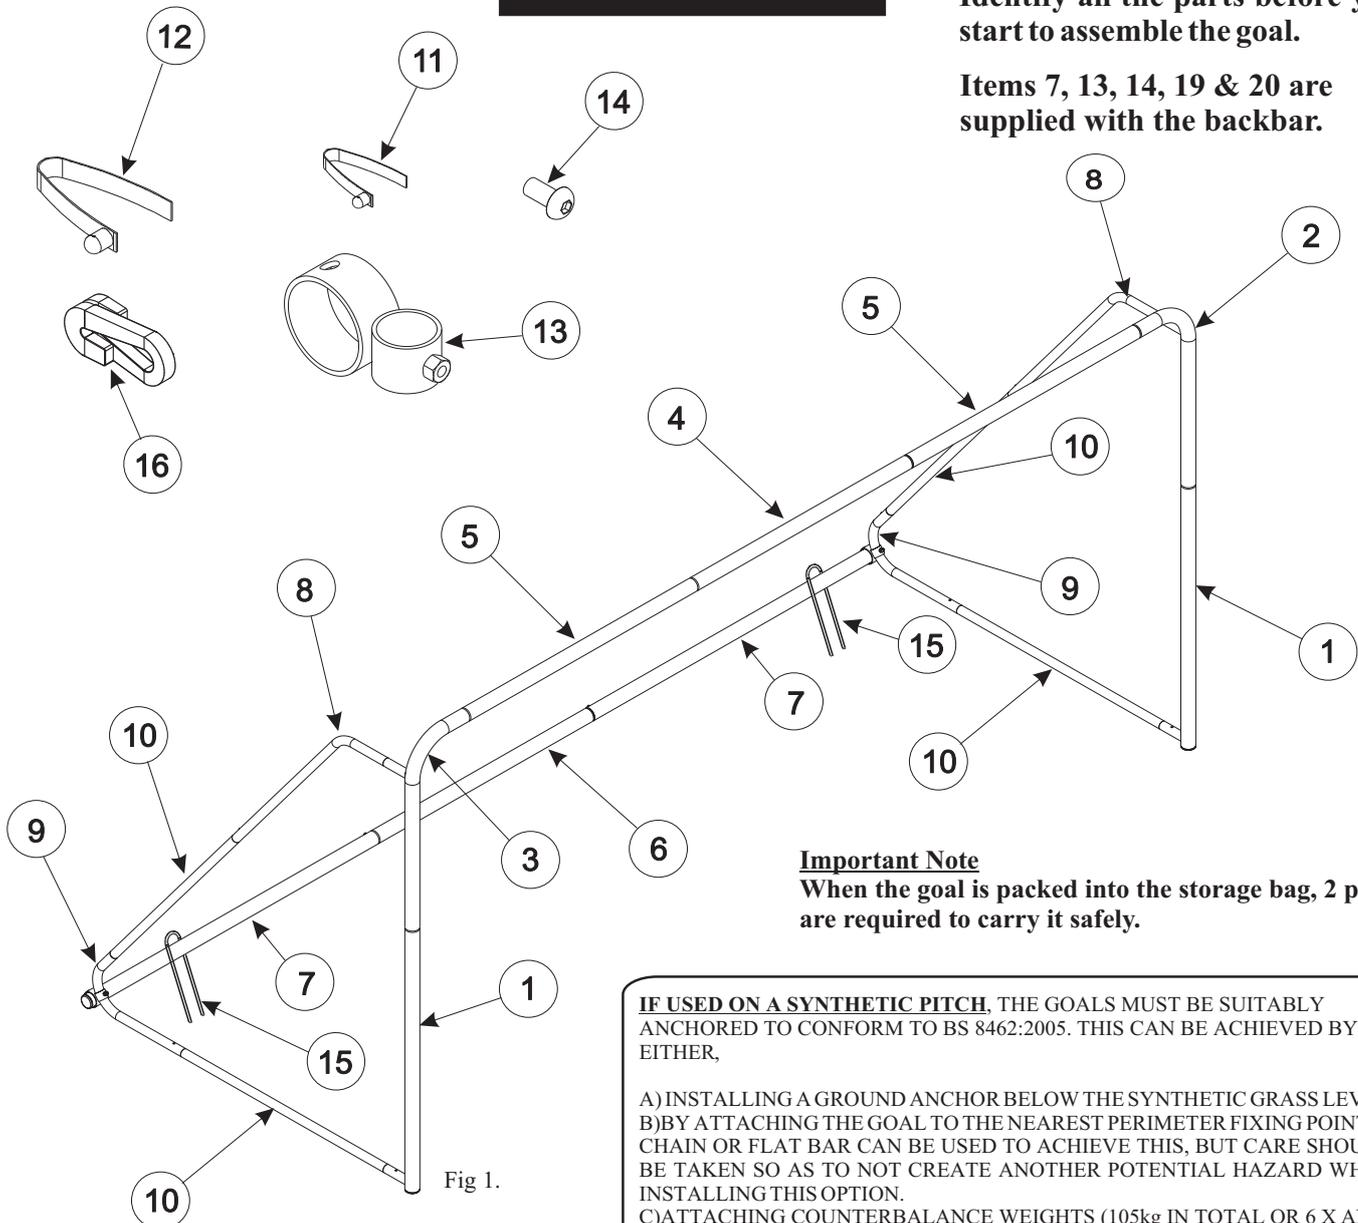

Fig 1.
**6** When the goal is fully assembled, lift into upright position. Once you have fitted the net and back bar as explained in stage 7, make sure that the goal is secured using the 'U' Pegs provided, positioned as shown on Fig. 1. (If the goal is not for grass use, please see note on previous page on synthetic pitch anchor options).